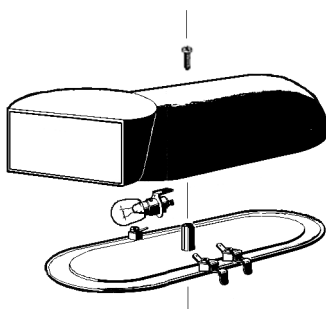

figure 19
- 3 - Replacement of lighted top cover bulb: remove the screw placed in the upper part of the top cover, remove the lower part and replace the bulb (using a 24-28V 21W max bulb). Reassemble the top cover and replace the screw.(see figure 19)